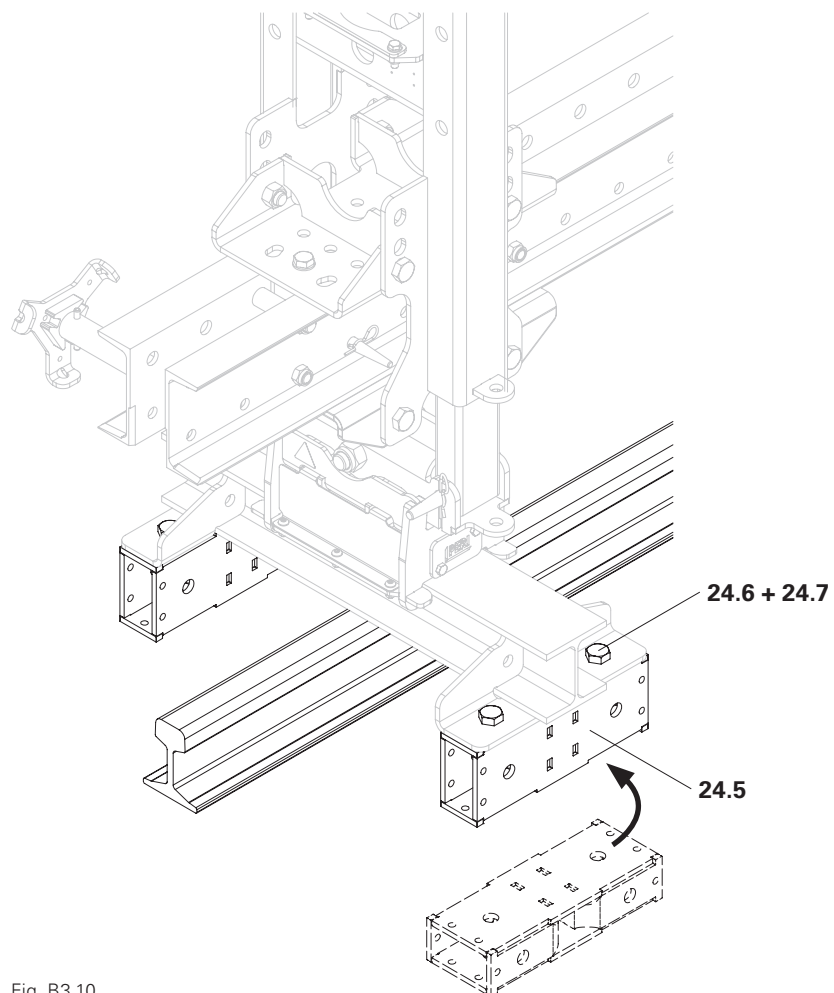

Fig. B3.10
4. For the rest of the assembly process for the hinge slide, see Assembly with Crane Rail A75. (Fig. B3.10)